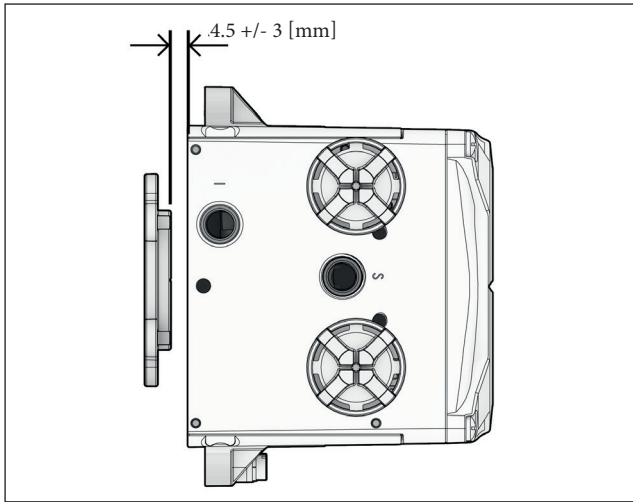

Fig. 23.
- The distance between the magnet and the device bottom shall be 4.5 mm with +/- 3 mm tolerance (1.5 - 7.5 mm). See fig 23.